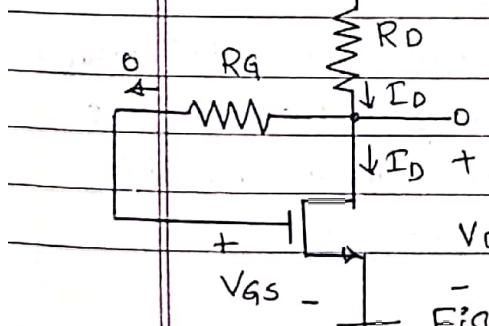

Figure 3: Biasing using large drain-to-gate feedback
(*) A simple and effective biasing arrangement utilizing a feedback resistor connected b/w the drain & gate is shown in fig 3. Large Feedback resistance R_F ($M\Omega$) range forces the
- (*) The circuit of Fig 3 can be utilized as a CS amplifier by applying the I_{Op} voltage signal to the gate via a coupling capacitor so as not to disturb dc bias conditions already established.
EXAMPLE 2: Design the circuit in Fig 3 to operate at a dc drain current of 0.5mA . Assume $V_{DD} = 5\text{V}$, $k_n \frac{W}{L} = 1\text{mA/V}^2$, $V_T = 1\text{V}$ and $\lambda = 0$. Use standard 5% resistance value for R_D & give the actual values obtained for I_D & V_D .